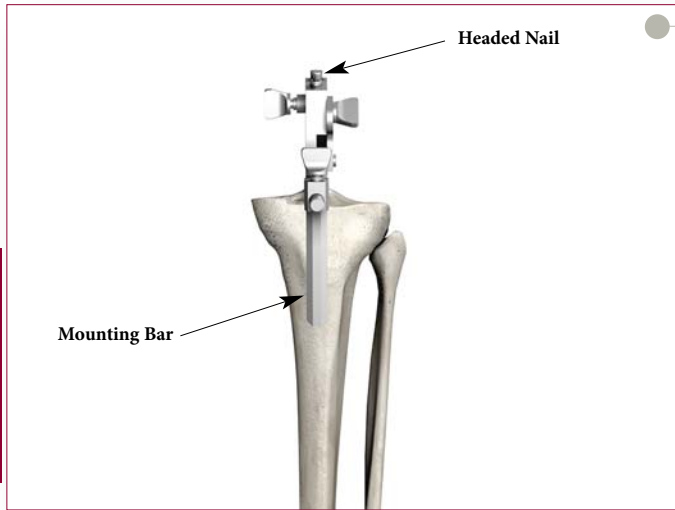

Figure 50
- ▶ With the body of the IM jig resting on the proximal tibia, correct rotational alignment is achieved by rotating the instrument about the IM rod so that the tibial tubercle appears slightly lateral to the vertical mounting bar. The headed nail is impacted, fixing rotational alignment (Figure 50).